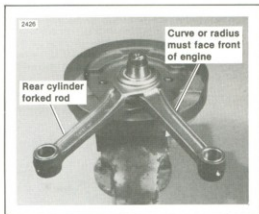

Figure 3-47. Connecting Rod Location
2. Assemble the sprocket shaft (13) and left flywheel half (2) and apply two drops of Loctite 620 RETAINING COMPOUND to the threads and two more drops to the face of the nut. Do not use any type of primer and do not put Loctite on the shaft tapers.
4. Assemble the pinion shaft (7) and right flywheel half (6) in a similar manner. Tighten the nut to 140 - 170 ft-lbs torque.
7. Install the rods and bearings on the crank pin using a thin film of petroleum jelly to retain the rollers. Never use a stiff, high temperature grease on roller bearings. Make sure the forked rod faces the rear cylinder and that the offset reinforcement on the front rod faces forward. See Figure 3-47. If the front rod is turned 180° it will interfere with the rear rod.